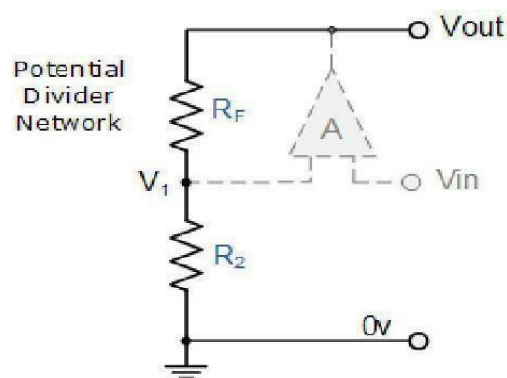

Fig 1.24: potential divider in non-inverting op-amp
1. From open loop gain vs frequency graph At 1 MHz shown in fig.1.24, it can be found 1 MHz for the 741C OPAMP frequency the gain reduces to 1. The mid band voltage gain is 100,000 and cut off frequency is 10Hz.